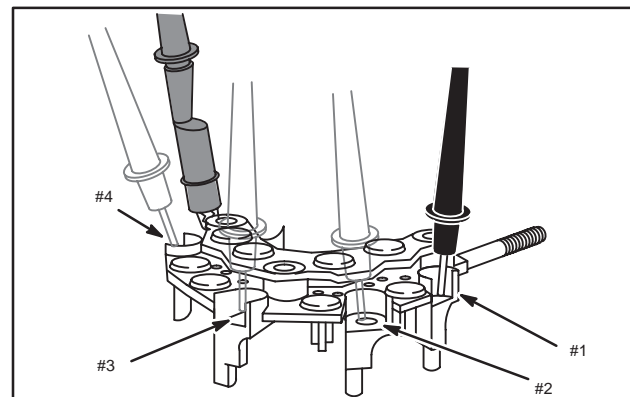

Fig. 35 – Check Rectifier
4. Attach RED test lead to one of the three rectifier mounting holes, Fig. 35. Leave attached through Step 6.
5. Contact #1 terminal with BLACK meter test lead, Fig. 35.